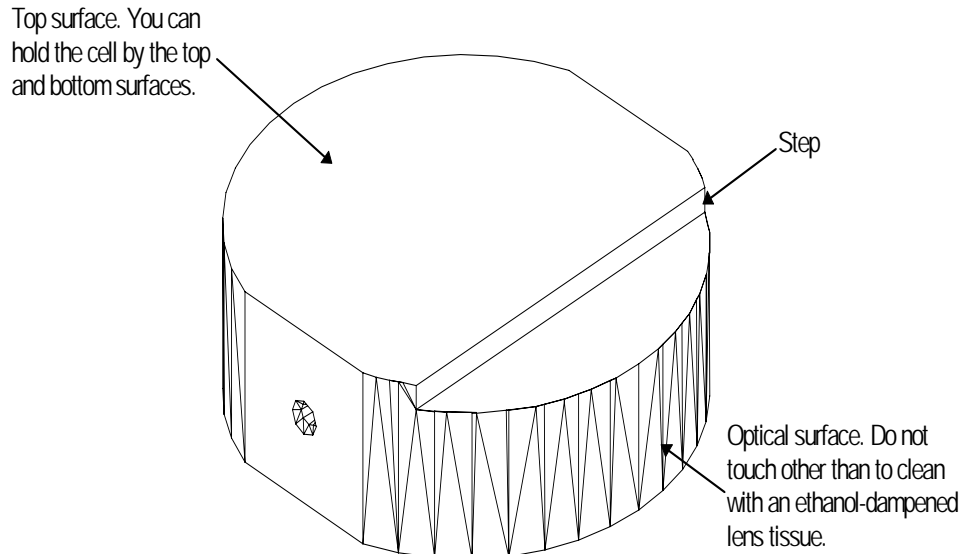

Figure 5-6: Flow cell
3. Clean the outside of the cell. (See Figure 5-6.)